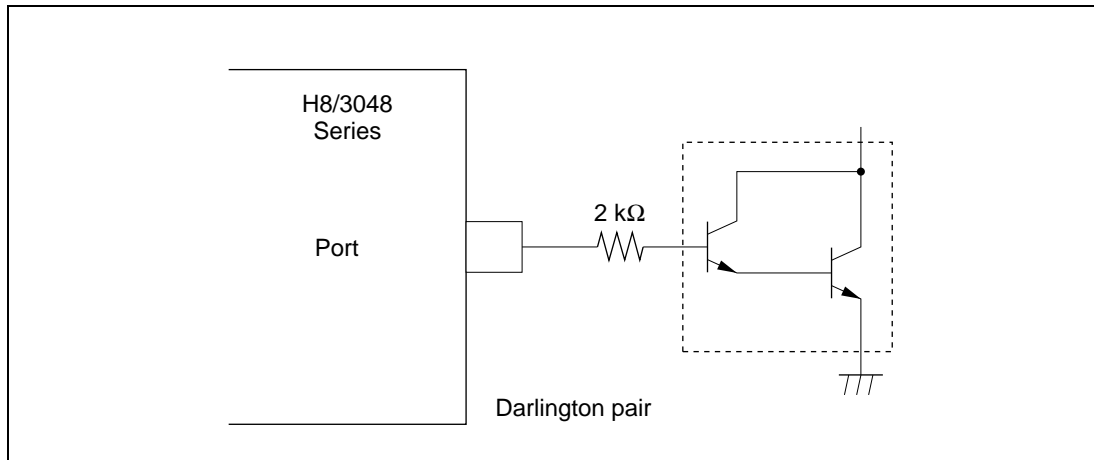

Figure 22.4 Darlington Pair Drive Circuit (Example)
2. When driving a darlington pair or LED, always insert a current-limiting resistor in the output line, as shown in figures 22.4 and 22.5.